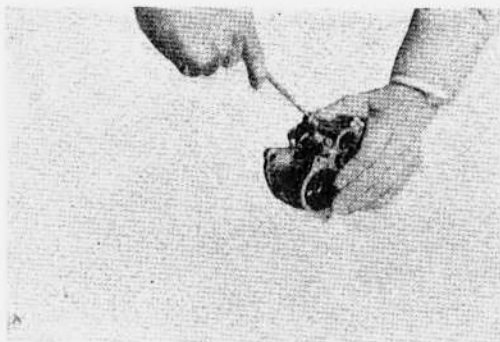

Figure 124
(12) Unloosen and remove nut plug at lower part of pump cylinder (Fig. 124).